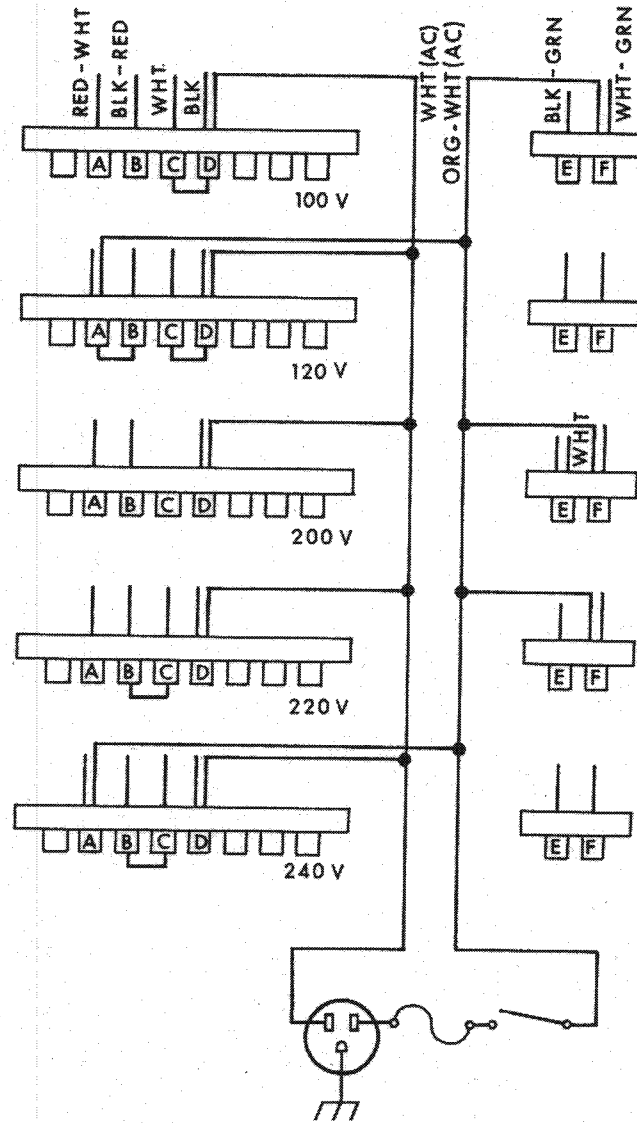

FIG. 2-13
3. Choose the correct line voltage connection, then simply hook the transformer wires and jumpers on the two terminal strips according to the corresponding diagram, Fig. 2-13.